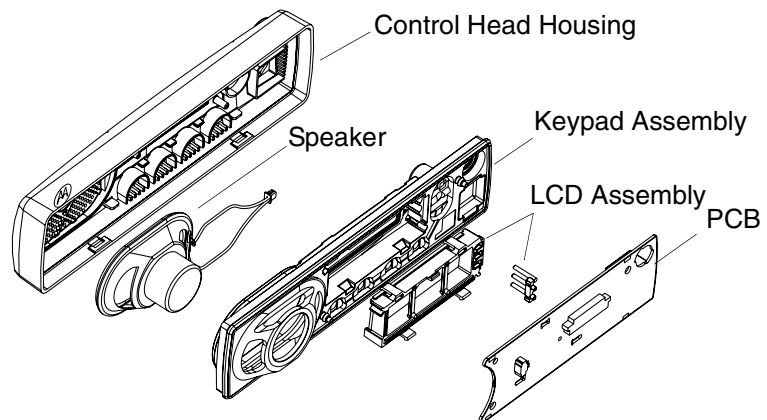

Figure 2-12 Control Head Housing Removal (CM160/CM360)
1. Disconnect the flat cable from the Control Head PCB connector. See Figure 2-12